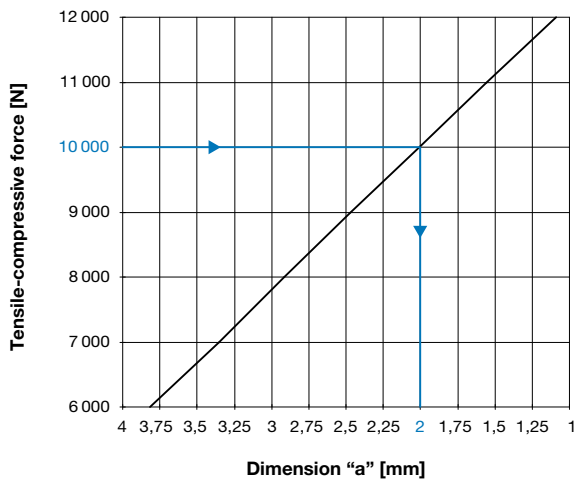

Fig. 2 (This Adjustment Diagram for Size 4, Type 3_..6_0 only serves as an example!)
After having released the set screws (1), the adjusting nut (2) is set to Dimension “a” as shown in the Adjustment Diagram (see Fig. 2) using a face wrench. By turning the adjusting nut clockwise, the release force is increased. Turning the adjusting nut counter-clockwise leads to a decrease in release force (viewing direction: facing the front of the adjusting nut (2)). Afterwards, the adjusting nut (2) must be secured again using the set screws (1).
$a = 2\text{ mm}$ (Fig. 2)